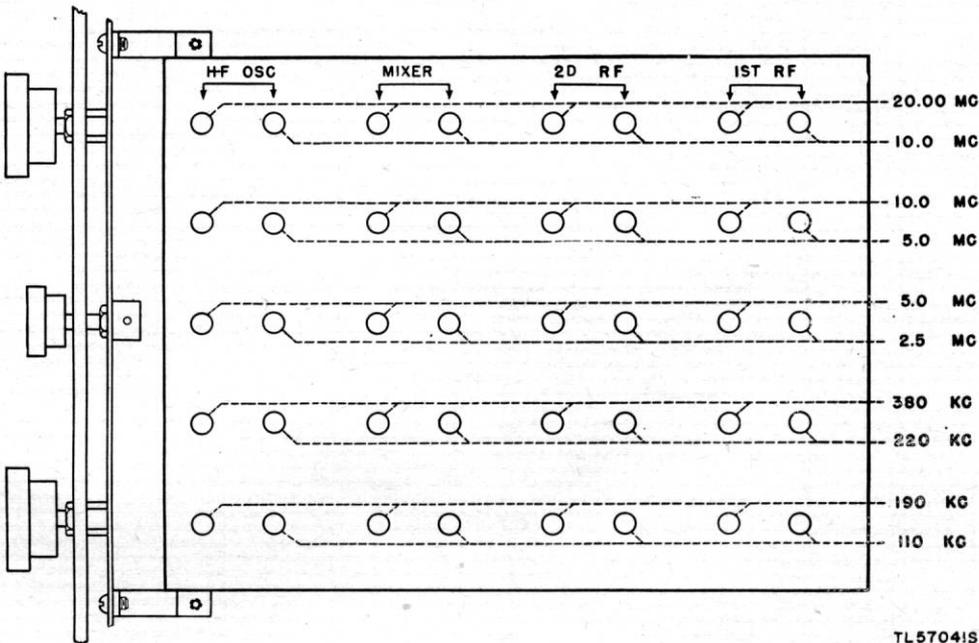
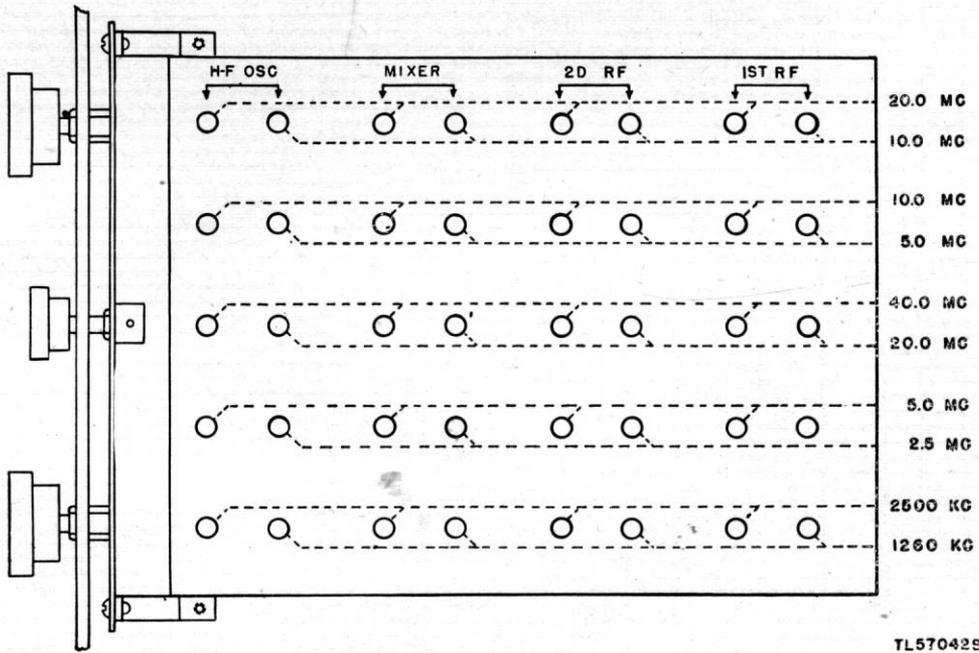

Figure 46. Radio Receiver BC-779-(\*), alinement chart.
Figure 47. Radio Receiver BC-794-(\*), alinement chart.
shown in figures 46, 47, 48, and 49, respectively. If necessary, the second harmonic can generally be used when the fundamental frequency is not available. For example, a signal generator covering all frequencies from 100 kc to 20 mc, in addition to being ideal for checking Radio Receiver BC-779-(\*), could be used to check Radio Receiver BC-794-(\*), by using the second harmonic of 20 mc instead of the 40 mc called for in figure 47. The signal generator should have an output of about 100 microvolts and an output impedance of approximately 100 ohms for best results when aligning the r-f and h-f oscillator circuits. For i-f alinement these values are not critical. The frequency calibration of the signal generator is extremely important in order that the receiver dial calibration be correct.
b. To correct dial calibration, refer to an alinement chart, figure 46, 47, 48, or 49 for the location of the h-f oscillator adjustments as well as the signal frequencies at which the settings should be made. If the 2.5- to 5.0-mc band is to be corrected, the signal generator may be *accurately* set to 2.5 mc and its second harmonic (if strong enough) used for the 5.0-mc end of the band. In either case, whether the 5.0-mc frequency is the fundamental or second harmonic, the 5.0-mc frequency *must* be accurate. This requires that the setting of the signal generator be accurately adjusted by the use of a frequency meter as described in paragraph 94. The output of the signal generator should be unmodulated and the SIGNAL MOD-CW switch on the receiver turned to CW. Set the BEAT OSCILLATOR control at 0, the AUDIO GAIN at 10, and the AVC-MANUAL switch on MANUAL. Disconnect the output meter and use headphones or loudspeaker to make the necessary adjustments by the zero beat method. Connect the signal generator to the antenna terminals for this test.
c. Set the receiver MAIN TUNING dial to the 5.0-mc end and then tune it to zero beat with the 5.0-mc output of the accurately calibrated signal generator. Notice the approximate dial error. Then turn the MAIN TUNING dial slightly toward the 5.0-mc calibration line until the beat note rises to a high pitch. Do not turn the dial far enough to raise the beat note so high that you cannot hear it. With the alinement screw driver adjust the trimmer capacitor marked H-F OSC-5.0 MC (fig. 46, 47,
48, or 49) until the beat note is again zero. Turn the MAIN TUNING dial still farther toward the 5.0-mc line and make a further adjustment of the trimmer capacitor to return to zero beat. Repeat this procedure as many times as necessary to bring the dial to exactly 5.0 mc. (It is evident that the dial could be set at once on exactly 5.0 mc and the trimmer turned enough at one time to produce zero beat, but the step-by-step method is recommended). Accurately set the signal generator to 2.5 mc by calibrating it with the frequency meter. Then tune in the 2.5-mc signal at the l-f end of the MAIN TUNING dial and correct the calibration step-by-step, as before, using the inductance trimming adjustment H-F OSC-2.5 MC (fig. 46, 47, 48, or 49). Accurately set the signal generator for an output of 5 mc again, and tune the receiver to this frequency. It will be found that the adjustment of the inductance at 2.5 mc has changed the correction previously made at 5.0 mc. This is perfectly normal, because an adjustment at one end of the dial also affects the other end of the band. It will therefore be necessary to go back and forth several times from 2.5 to 5.0 mc in order to bring both ends of the dial scale into exact agreement with the signal frequency. Be sure that the signal generator is always accurately set.
c. Starting with the 2.5- to 5.0-mc band, set the MAIN TUNING dial at 5.0 mc (band spread dial at 100) and adjust the frequency of the signal generator for peak deflection of the output meter. Then check and adjust the setting of the trimmer marked MIXER and 5.0 MC in figure 46, 47, 48, or 49 for maximum reading on the output meter. Repeat this procedure on trimmers indicated as 2D RF and 1ST RF in the same row. If readjustments on one of these settings result in a sizable increase in output meter reading, slightly alter the SENSITIVITY control to reduce the reading to half-scale. After each adjustment check the tuning of the receiver to make sure that the test signal is still accurately tuned. The BAND SPREAD control may be used as a vernier for this purpose in those bands in which it operates (par. 15c). *This tuning check is extremely important at the high end of the 10- to 20-mc and 20- to 40-mc bands where there is some slight interaction between the mixer and h-f oscillator circuit.* After checking the three trimmers at the high end of this band, turn the MAIN TUNING dial to 2.5 mc and retune the signal generator to suit. Then check the three inductance adjuster settings marked 2.5 mc in the same row. Since adjustments at one end of a band also affect the other end of that band, it will be necessary to repeat the above procedure until no further improvement can be secured. The number of repetitions necessary will depend on how much mistuning existed to start with. Check the rest of the bands in the same manner.